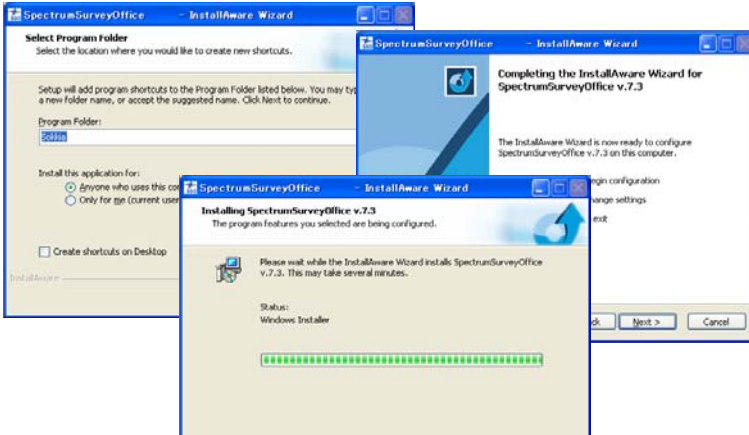

Figure 1-4. Select Program Folder and Installation Progress
4. If desired, type in a new folder in which to add program icons. For automatically creating Spectrum Survey Office shortcut check the 'Create on Desktop' box. Then click **Next** (Figure 1-4).
5. Click **Next** to start the installation process (Figure 1-4)
6. Spectrum Survey Office is installed on the computer (Figure 1-4)